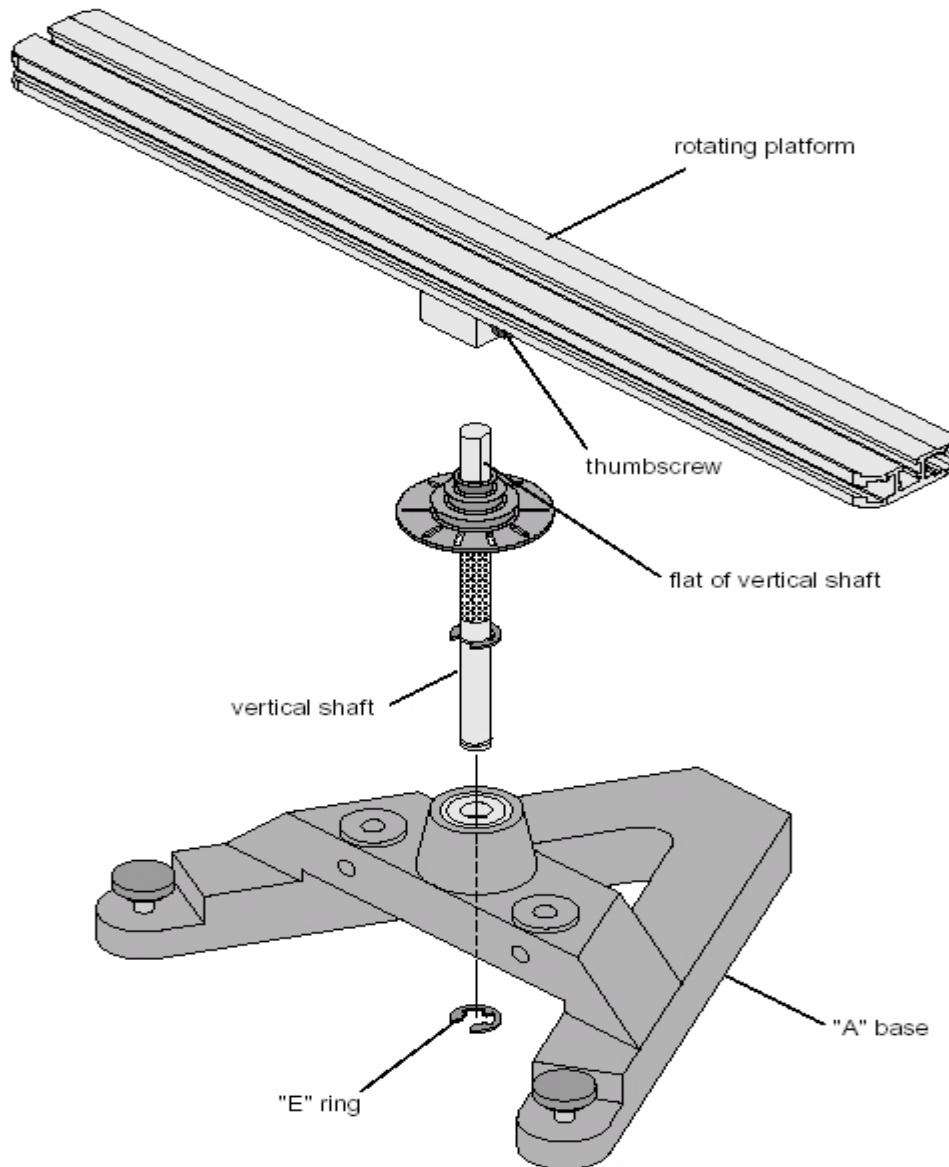

Fig. A1: Attaching the vertical shaft to the base and Rotating Platform Assembly
1. Insert the cylindrical end of the shaft into the bearings on the top-side of the A-shaped iron base. Secure the shaft in place by inserting the “E” ring in the slot at the bottom of the shaft. See Fig. A1.